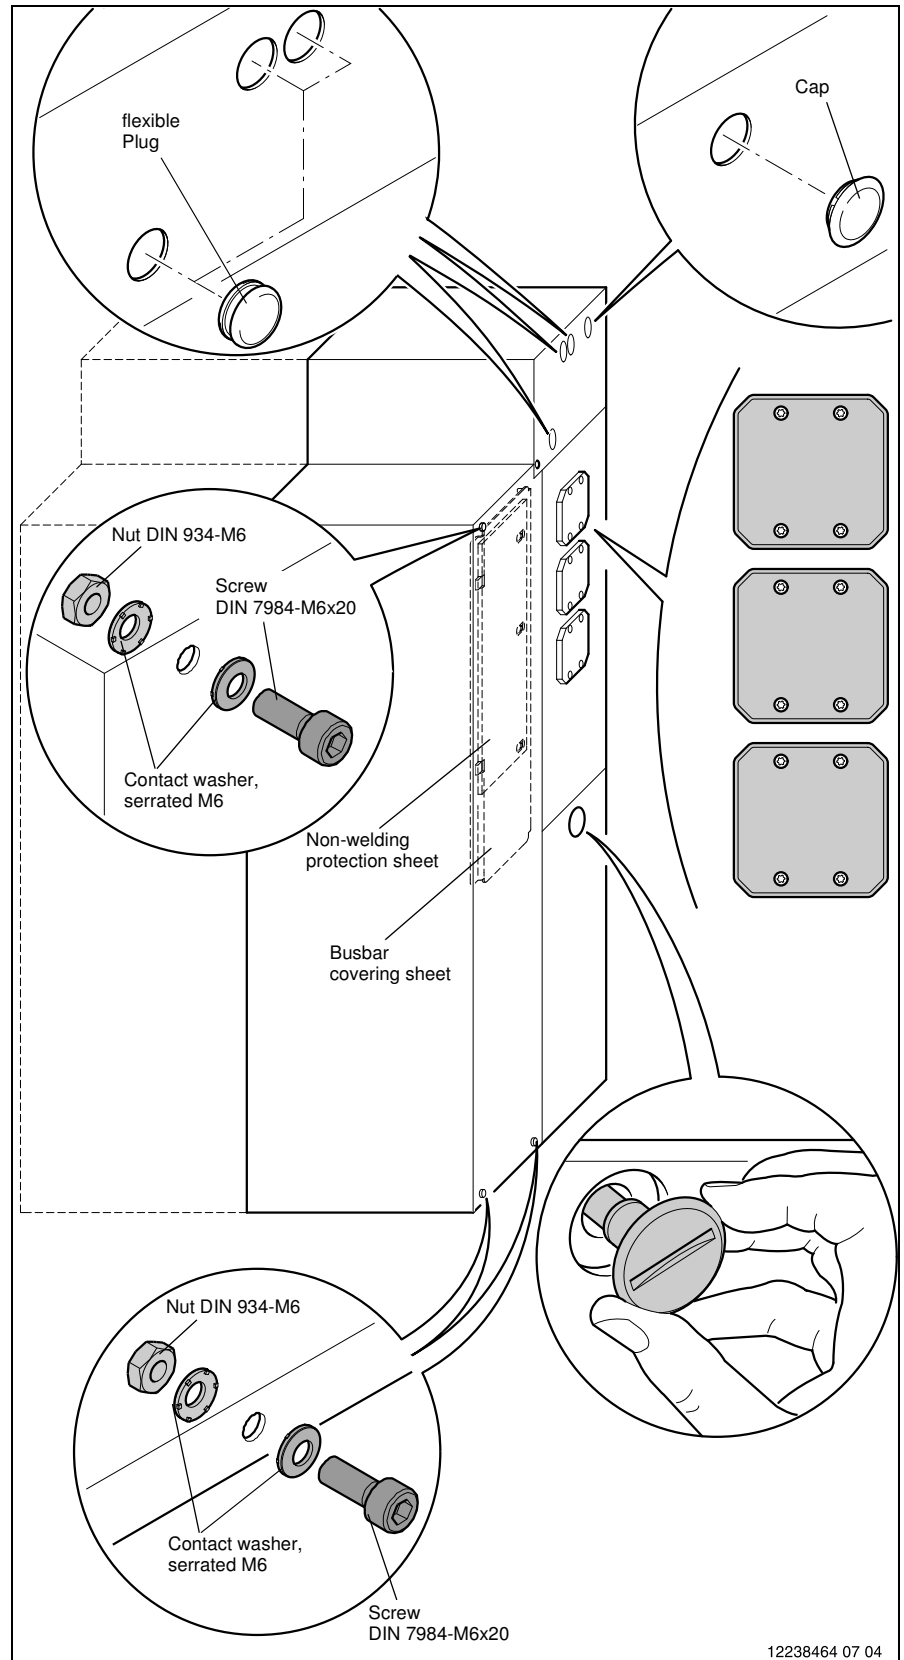

Fig. 35
**1.** Remove the adhesive foil from the bottom panel installation point and turn the plug in with a flat screw driver (tightening torque: 10 Nm) (Fig. 35).
**2.** Assembly of the end seals at the bushings L1 to L3 and on the cable connection compartment is performed as described in assembly steps 1, 2, 4 and 6 and 10 to 12 in chapter 4.1 (Fig. 35).
**3.** Remove the adhesive foils from the top panel installation points and the openings for adjustments and cable bushing. Close the openings with a cap (upper panel installation point) as with a flexible plug (2 cable bushines and 1 adjustment opening) (Fig. 35).